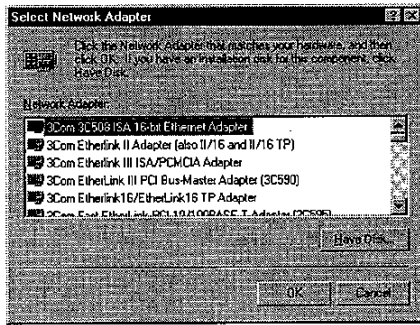

Figure 27. Select Network Adapter
- step3. Click *Add*. The *Select Network Adapter* box will open (Figure 27)